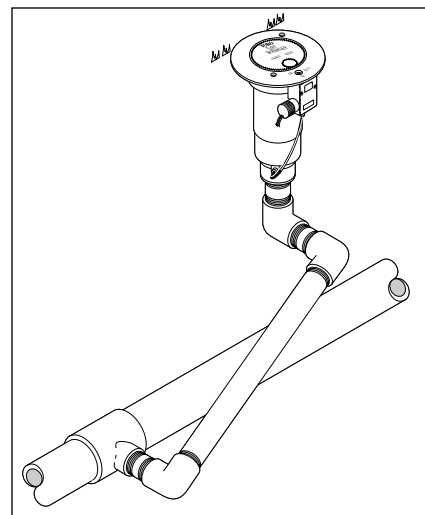

Figure 1
1. Construct or provide triple swing joints for each sprinkler as shown in Figure 1.